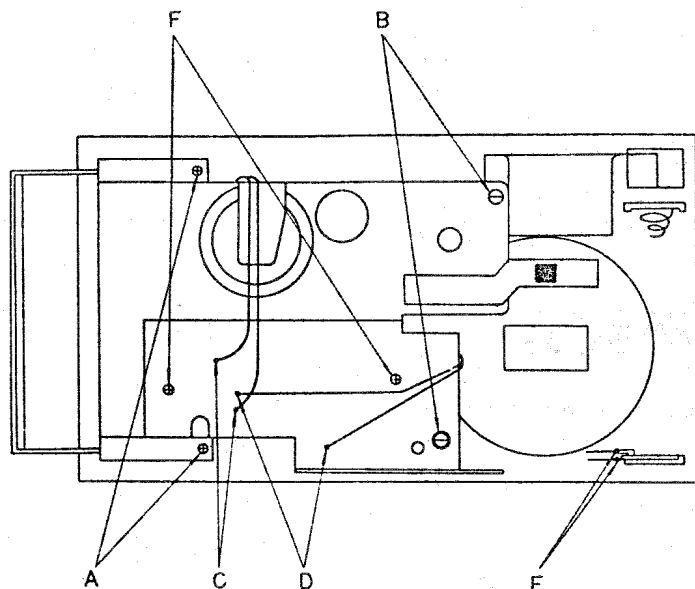

Fig. 1. Dismantling diagram.
- 2 Remove two screws marked A in Fig. 1.
- 3 Remove two studs marked B in Fig. 1.
- 4 Disconnect Level meter leads and Loudspeaker leads marked C and D in Fig. 1.
- 5 Disconnect leads to Battery contacts marked E in Fig. 1.
- 1 Remove two screws marked F in Fig. 1.